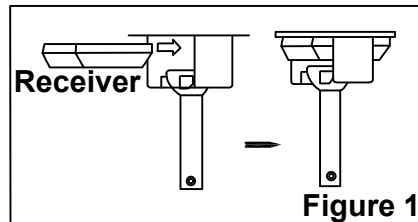

Figure 1
1.After connecting all wires, look at the picture and put the receiver in its place. (Figure 1)